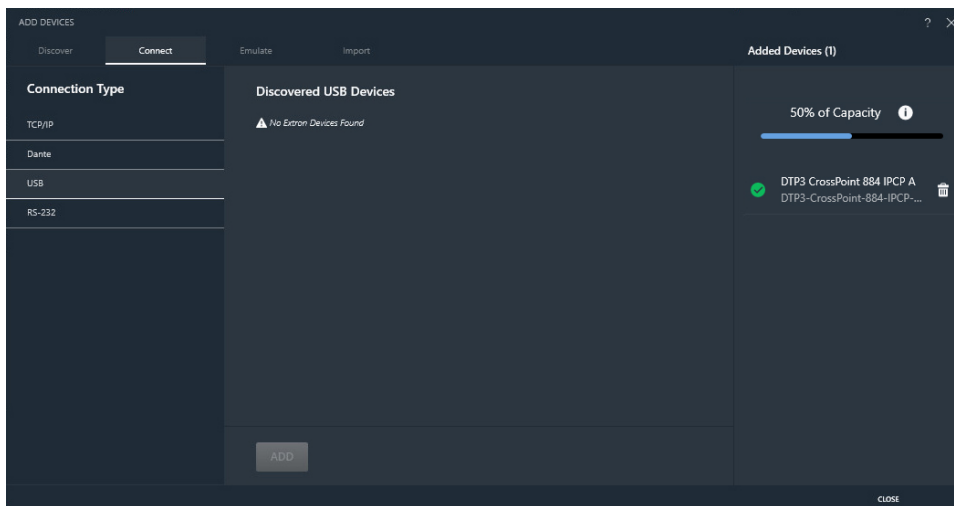

Figure 44. Connect to the Device via USB
- Click the **USB** tab (see figure 44) in the in the Connection Type panel.